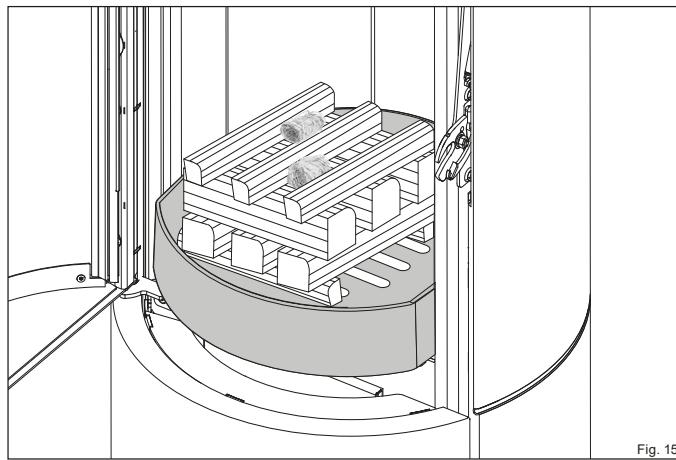

Fig. 15
- Place the logs in the middle of the grate in the firebox (Fig. 15):
- place the first 2 (②) at the front and back end of the grate opening, perpendicular to the firebox glass
- place the next 3 (①) on top of the first two pieces, parallel to the firebox glass
- the next 3 (①) across
- place the last 3 (②) lengthwise on top of this
- the kindling (③) in the middle between the top logs